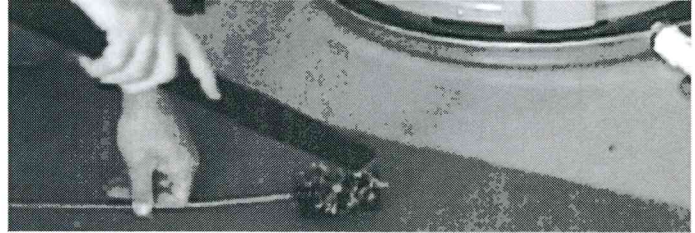

Figure 4
H. Replacing Inner Door Gasket: (See Figure 4)
Use an in and out motion to remove dust/debris from the flame arrestor. Periodically pull the brush from the water heater and use the vacuum to remove any dust/debris from the brush. Repeat this procedure until the flexible cleaning brush does not retrieve any further dust/debris (See Figure 4).